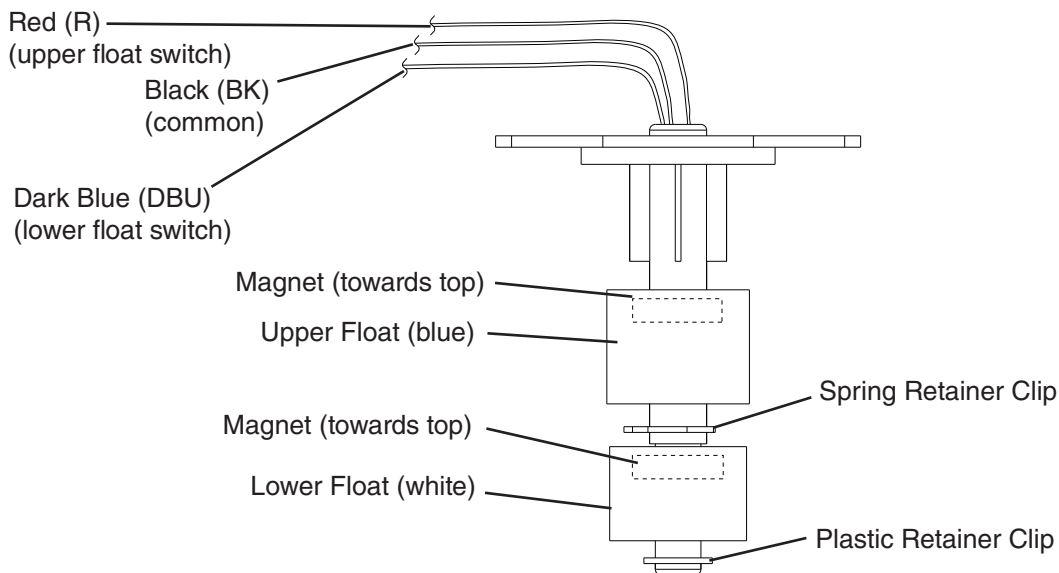

Fig. 4
- 9) Press the actuator paddle located in the top of the bin to the right (actuator paddle engaged). See Fig. 4. The 90-sec. Comp shutdown timer starts. Once 90-sec. Comp shutdown timer terminates, Comp and FM de-energize and 60-sec. GM shutdown timer starts. Once 60-sec. GM shutdown timer terminates, GM de-energizes.
- 4) Disconnect the FS molex plug from the control box and check continuity across FS wires. (BK) to (R) for UFS and (BK) to (BU) for LFS. See Fig. 4. With the water reservoir empty, FS switches are open. If open, continue to step 5. If closed, follow the steps in "II.E.2. Float Switch Cleaning." After cleaning the floats, check them again. Replace if necessary.
- 8) Disconnect the FS molex plug from the control box and check continuity across FS wires. (BK) to (R) for UFS and (BK) to (BU) for LFS. With the water reservoir full, FS switches are closed. If open, follow the steps in "II.E.2. Float Switch Cleaning." After cleaning the floats, check them again. Replace if necessary.
- 3) Remove the float switch assembly from the reservoir cover. See Fig. 4.
- 5) While not necessary, the floats can be removed from the shaft during cleaning. If you remove them, note that the blue float is on top. The floats must be installed with the magnets inside them towards the top of the switch. See Fig. 4. Installing the floats upside down will affect the timing of FS operation.